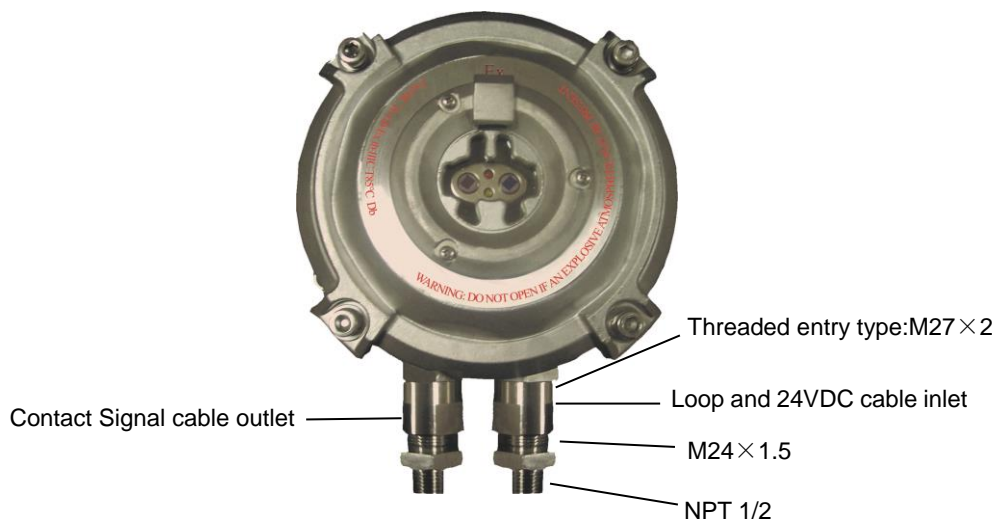

Fig. 9
The loop cable and the power shall enter the detector through a cable nut, and the signal cable through another cable nut (Fig. 9). If no signal cable is needed, the cable outlet shall be inserted with a blanking element with O-ring.
- (6) The following places are not suitable for the detector:
- (7) Special conditions for safe use: Repairs of the flameproof joints must be made in compliance with the structural specifications provided by the manufacturer. Repairs must not be made on the basis of values specified in tables 1 and 2 of IEC 60079-1.
- (8) The screws used for the assembly must be of yield stress higher or equal to 700N/mm2.
- (9) The threaded entries comply with following parameters:
- ✧ Position on the equipment: see Fig 9
- (10) One blanking element of threaded entries type M27×2 is delivered with the detector and installed in back cover.